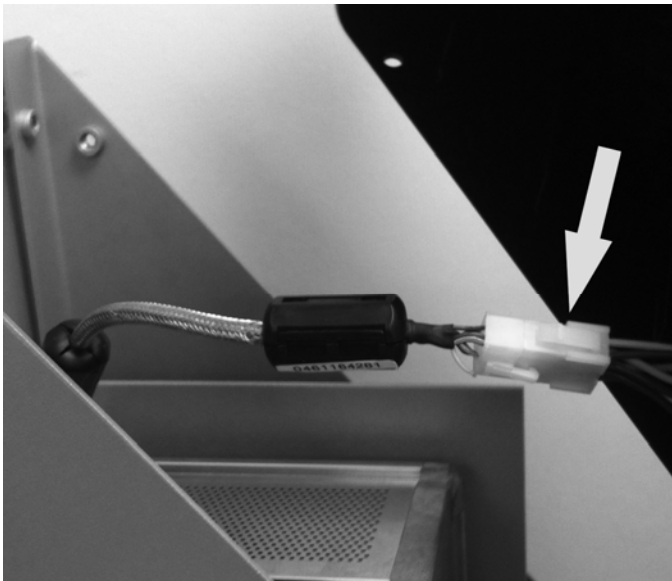
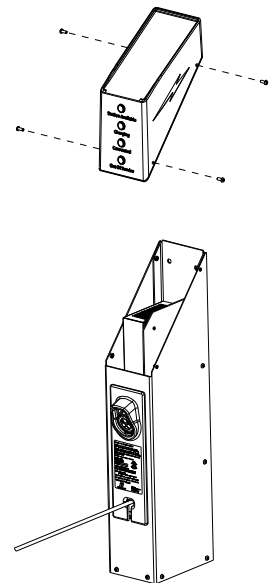

Figure 4 - LED cable harness connector
Figure 3 - Top Cover Removed
4. Remove 4 screws that attach the top cover to the charging base (use security hex bit provided). Retain screws separately for later installation. Gently lift the top cover ~6 inches. (See Figure 3) Disconnect LED cable harness connector from charging base harness by pressing release tab and pulling gently apart. (See Figure 4)